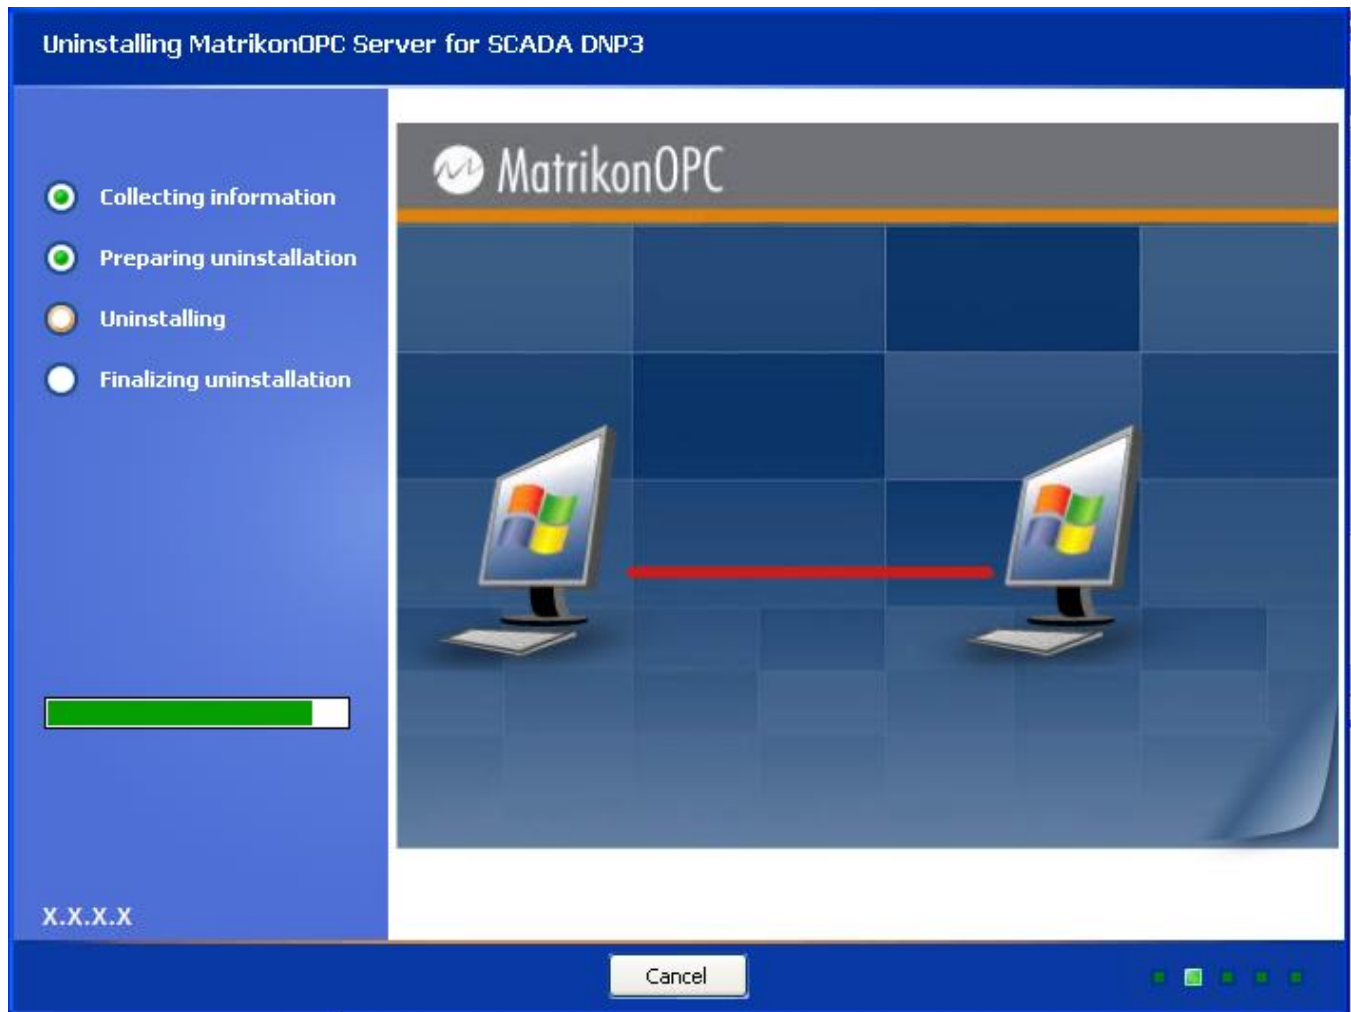

Figure 59 - Uninstalling MatrikonOPC Server for SCADA DNP3 Screen
10. The **Uninstalling MatrikonOPC Server for SCADA DNP3** screen (Figure 59) appears and the un-install takes place.